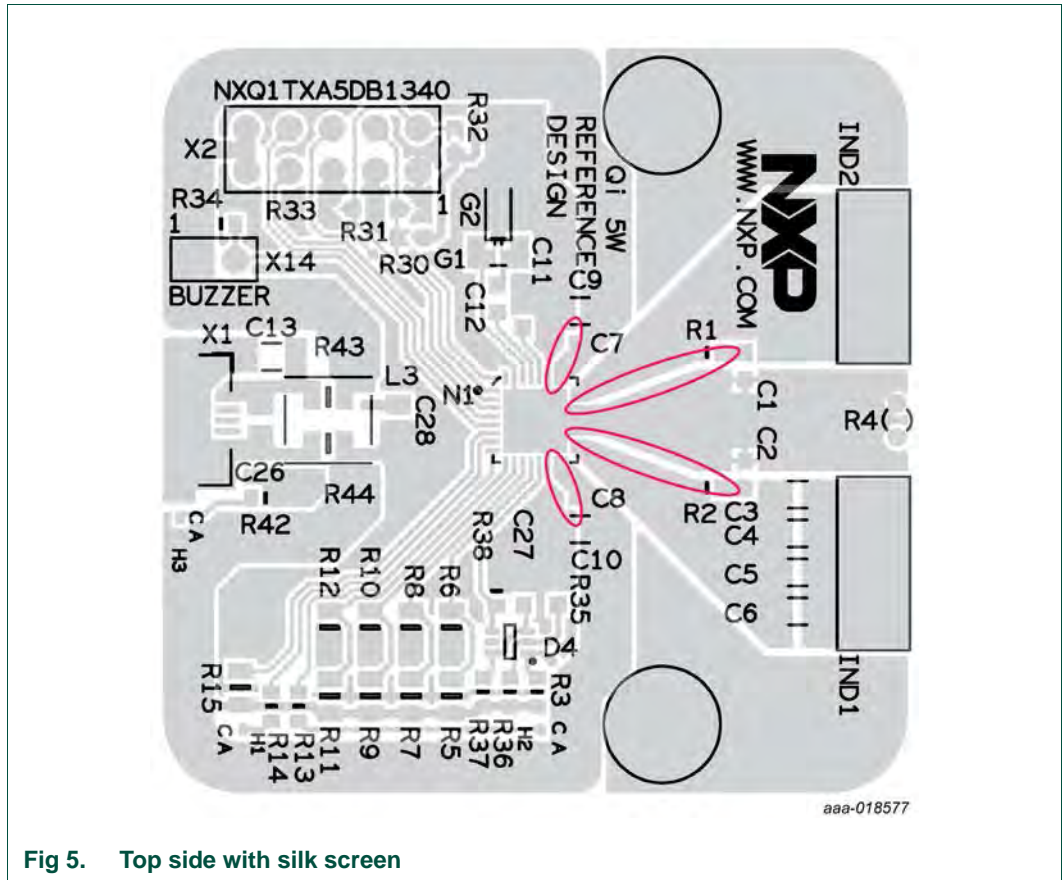

Fig 5. Top side with silk screen
- Decoupling capacitors C10 and C8 are placed very close to pins 15 and 16. They have a low-impedance connection to GND. The same applies to capacitors C9 and C7 which are very close to pins 25 and 26. In this way, the two supply loops (see Figure 5) are kept as small as possible.
- Snubber circuit capacitor C1 and resistor R1 and capacitor C2 and resistor R2 are mounted close to the output pins (pins 17 and 18; pins 23 and 24). The GND connections of the snubber circuits are close to IC GND pins 19, 20, 21, and 22. In this way, the two snubber loops (see Figure 5) are kept as small as possible.